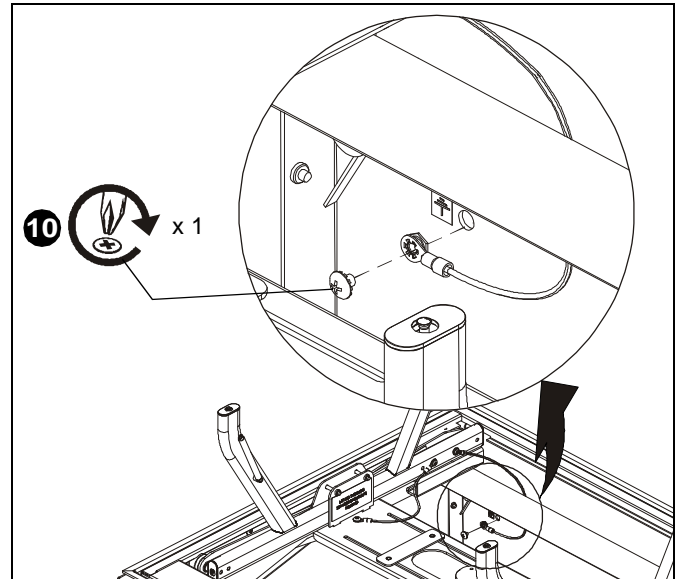

Figure 17
10. Reconnect grounding strap from inside front of SL220 to projector cradle, using the Phillips head screw previously removed. (See Figure 17)